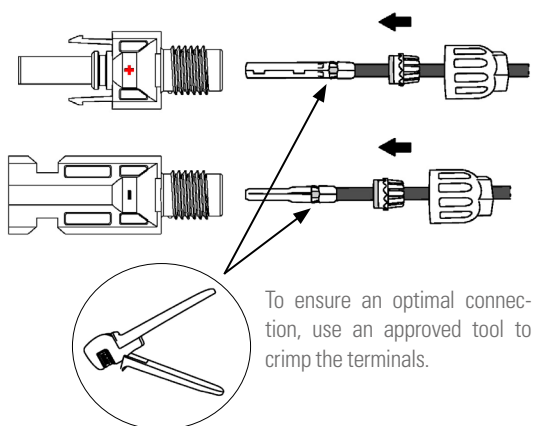

Fig. 24. Crimping the cable.
- d. Insert the DC cable through the DC connector nut on the metal terminal and press the terminal with professional crimping pliers (pull the cable to check if the terminal is well connected to the cable), as shown in Fig. 24: